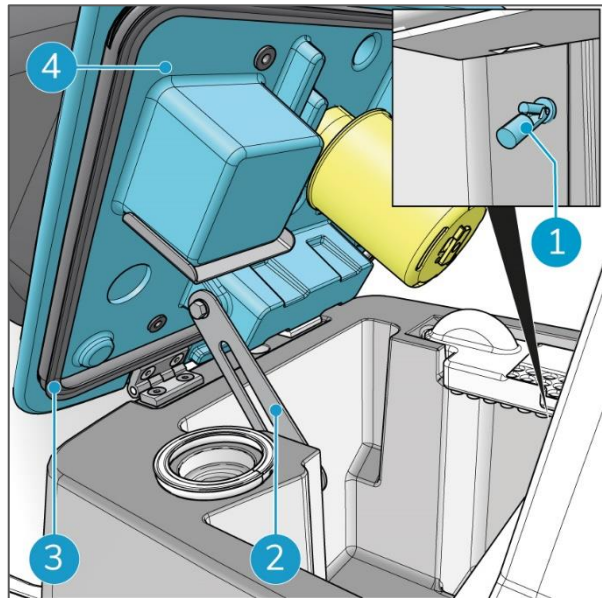

Figure 46
3. Open the lid of the recovery tank (Figure 46, pos 4).
4. Check the rubber seal (Figure 46, pos 3), if it is polluted, clean it with a damp cloth.
10. When the recovery tank is empty, hose down the tank with water (Figure 46).
11. Clean the underside of the lid with water (Figure 46).
12. Clean the float switch (Figure 46, pos 1) with water to avoid that it sticks.
5. Unlock the safety hook (Figure 46, pos 2) and close the lid of the recovery tank